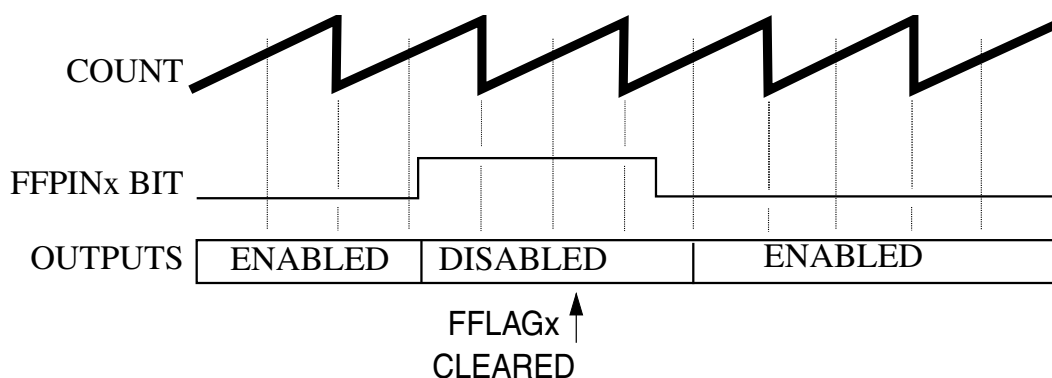

Figure 26-31. Manual fault clearing ( $FCTRL[FSAFEx] = 1$ ,  $FSTS[FHALFx] = 1$ )
- The filter detects a logic zero on the `FAULTx` pin at the start of the next PWM full or half cycle boundary, as shown in Figure 26-31. If `FSTS[FFULLx]` is set, then the disabled PWM pins are enabled at the start of a full cycle. If `FSTS[FHALFx]` is set, then the disabled PWM pins are enabled at the start of a half cycle.